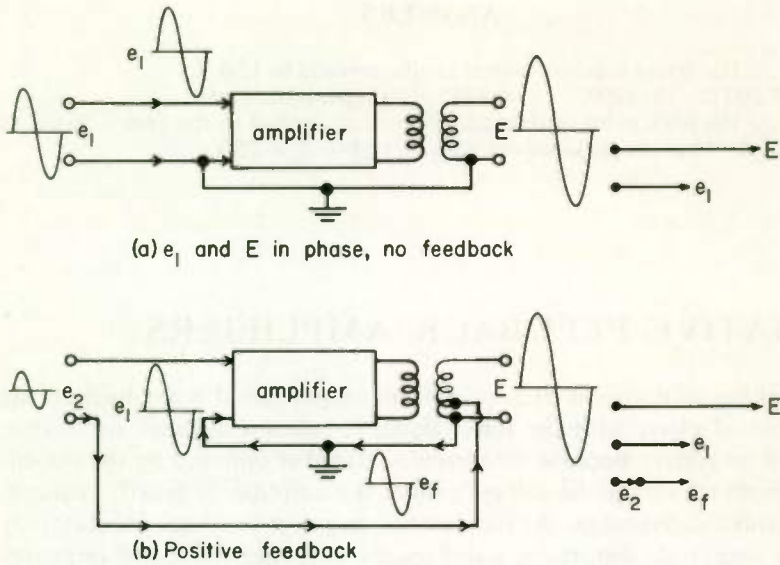
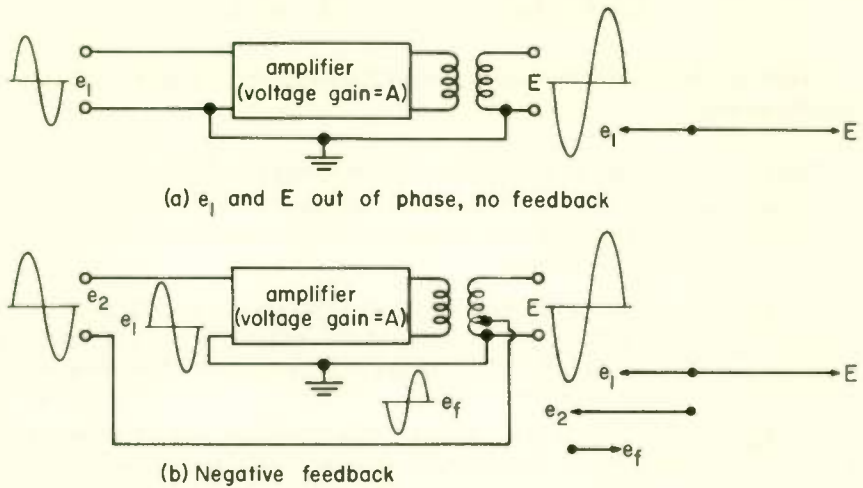

Fig. 28 Amplifier with positive feedback.
Fig. 29 Amplifier with negative feedback.
Figure 28(a) shows an ordinary amplifier with transformer coupling to its output. The output signal E is shown as in phase with the input signal e_1 . By merely reversing the primary leads, the output could be made to be out of phase with the input. Phasor diagrams for e_1 and E are shown to the right of the figure.
In Fig. 28(b) a small part e_f of the output signal is fed back to the input in such a manner as to be in series with the grid input signal e_2 . The total signal applied to the grid is thus $e_2 + e_f$, and it is this sum that is amplified by the stage. If the output signal E is to stay the same amplitude as it is in (a), the input signal must be much reduced in value, reduced enough that $e_2 + e_f$ is equal in amplitude to the input signal of (a). Then the signal actually applied to the amplifier input, which is e_1 , is the same in both part (a) and part (b) of Fig. 28, and consequently the output signal E is the same in both cases.
Feedback in which the signal fed back reinforces the input signal, as in Fig. 28(b), is called *positive* or *regenerative* feedback. Notice in Fig. 28 how a much smaller input signal e_2 with feedback produces the same output signal as does the larger e_1 in (a), where there is no feedback. This shows that positive feedback greatly increases the amplifier gain.
If the amplitude of the signal e_f fed back in Fig. 28(b) is increased until it is equal to the amplitude of e_1 , then the output signal E is maintained without any input signal e_2 . The amplifier then becomes an oscillator. Because of the high gain of most modern amplifiers, the amount of positive feedback required for the amplifier to lapse into oscillations (and therefore become useless as an amplifier) is quite small. Positive feedback is seldom used intentionally in modern audio amplifiers. Positive feedback increases amplitude and frequency distortion; operation is more erratic and unstable; and there is always the danger of oscillations. It is easy with modern tubes and transistors to get all the gain you want without the need of positive feedback.
2. Refer to Fig. 28(b). The amplifier shown supplies (a) *(all)* *(a part)* of its input signal voltage. The amplifier accomplishes this through the use of (b) _____ feedback.
3. Refer to Fig. 28(b). The input signal e_2 from the preceding stage is in (a) *(series)* *(parallel)* with e_f , the portion of the output signal fed back to the amplifier input terminals. The voltage e_2 (b) *(is)* *(is not)* in phase with e_f .
5. If the amplifier shown in Fig. 28(b) is suddenly overdriven (e_2 becomes large), the amplifier could go into _____.
3. (a) Series . . . As shown in Fig. 28(b), e_2 must travel to the tap on the secondary of the output transformer and then in the same path as e_f . Hence the two are in series. (b) Is . . . This fact is determined by use of the phasor diagram, which shows e_2 and e_f in phase.
ACTION OF NEGATIVE FEEDBACK . . . Figure 29(a) is the same as Fig. 28(a) except that in Fig. 29(a) the output signal E is out of phase with the input signal e_1 . In Fig. 29(b) part of the output signal e_f is fed back in series with the input signal e_2 . Since e_2 is out of phase with e_f , the signal e_1 applied to the amplifier input is equal to $e_2 - e_f$, or, to state it another way, $e_2 = e_1 + e_f$. If the output E is to be the same amplitude in (b) as it is in (a), then e_1 must have the same amplitude in both parts of the figure. Thus for the same output, e_2 in (b) must be greater than e_1 in (a) by the amount of e_f . Since the signal input for the same output must be greater with negative feedback, the voltage gain with negative feedback is less than without feedback.
A few figures will help make the signal relationships with inverse feedback clearer. Suppose that the gain of the amplifier without feedback in Fig. 29 is 100. What must be the value of the incoming signal e_2 in Fig. 29(b) to produce an output E of 500 mV? Assume that 20 per cent of the output signal is fed back to the input; that is, $e_f = 0.20 \times 500 = 100$ mV. If E is to be 500 mV, then e_1 (which is equal to E/A) must be $500/100 = 5$ mV. The input signal e_2 must furnish not only the 5 mV for e_1 but also another 100 mV to overcome e_f . The amplitude of e_2 must thus be 105 mV. The gain of the stage is thus $500/105 = 4.76$. The use of 20 per cent negative feedback brought the stage gain down to 4.76 from a gain of 100 without feedback.
1. What has probably been done to reverse the phase of E in Fig. 29(b) as compared with E in Fig. 28(b)?
2. Refer to Fig. 29(b). The input signal e_2 from the preceding stage is in (a) *(series)* *(parallel)* with e_f , the part of the output signal fed back to the amplifier input terminals. The voltage e_2 is (b) *(in phase)* *(180° out of phase)* with e_f , the feedback voltage.
4. Refer to Fig. 28(b). Assume the gain of the amplifier without feedback is 150. If 10 per cent of the output signal voltage is fed back to the amplifier input terminals, what is the gain of the stage? Use the formula, feedback with gain = $\frac{A}{1 - A\beta}$.
20 PRACTICAL VOLTAGE FEEDBACK ARRANGEMENTS . . . The number of stages within the feedback loop can vary from one to several. A suitable arrangement for a single stage is shown in Fig. 32(a). If a suitable tap were available on the secondary of T_2 for taking off the feedback signal, the circuit would be the same as Fig. 29(b) with the tube replacing the block labeled "amplifier." The voltage divider network R_1R_2 in Fig. 32(a) serves the same purposes as a secondary tap. The fraction of the output signal fed back, β , is equal to $\frac{R_2}{R_1 + R_2}$.
Instead of being taken from the secondary in Fig. 29(b), the feedback can be taken from the primary. When it is, the capacitor C_1 must be inserted